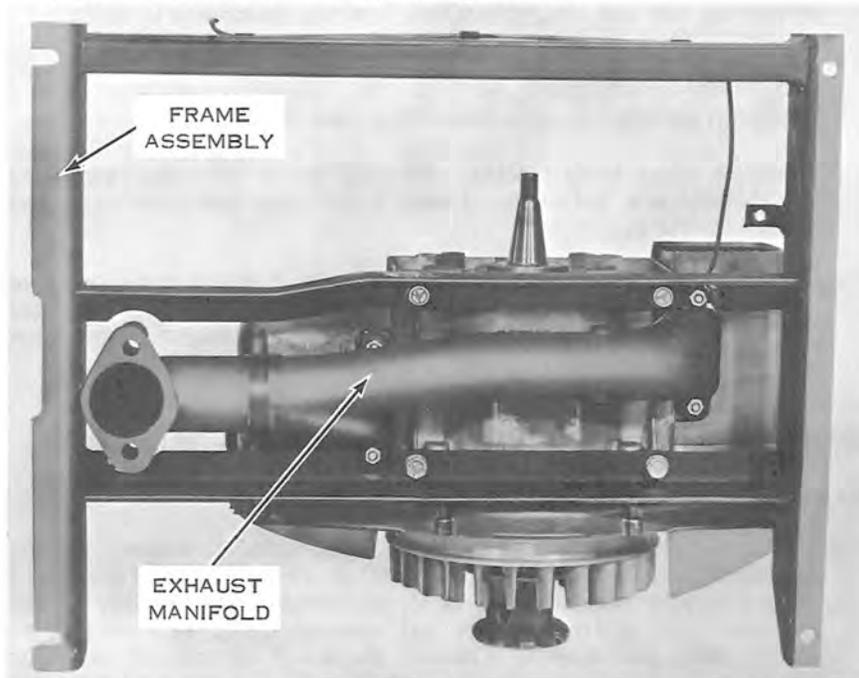

Figure 8-2
- a. Remove cylinder and crankcase group from engine frame assembly (see Figure 8-2).
- c. Remove exhaust manifold (see Figure 8-2).